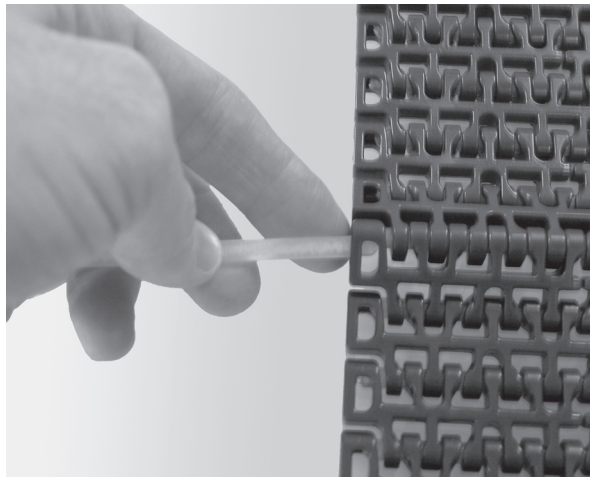

Figure 53
2. Use a second belt rod of the same size to push on the opposite end of the belt rod. (**Figure 53**).